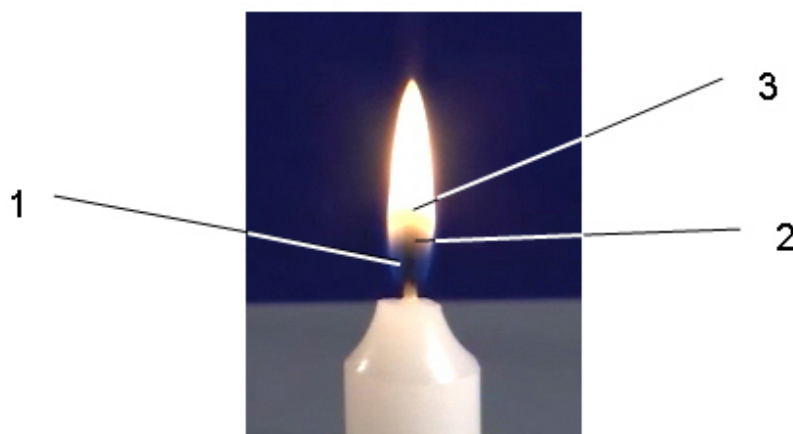

Figure 1
4. Monitor the temperature in three different areas of the flame \(see Figure 1\):